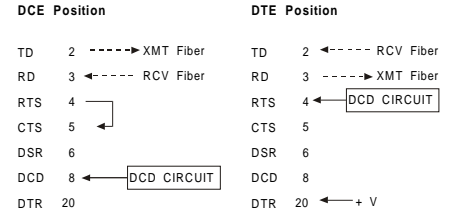
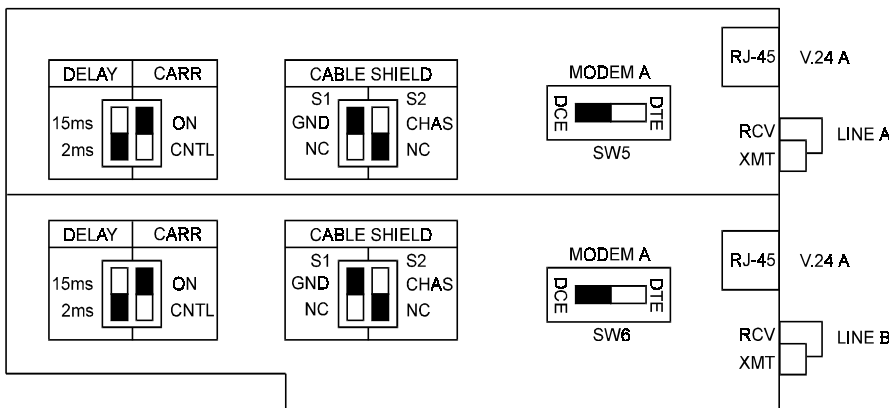

Figure 2. DCE/DTE Switch Configuration
Figure 1. Strapping Diagram
- The DCD/DTE switch is factory-set to DCE. Change to DTE, if required (see Figure 1 and Figure 2).
- Set the carrier strap to either ON (carrier continuously ON), or CTRL (carrier controlled by RTS) (factory setting - ON) (see Figure 1).
- Set the delay strap to either 2 msec or 15 msec RTS/CTS delay (factory setting - 2 msec) (see Figure 1).